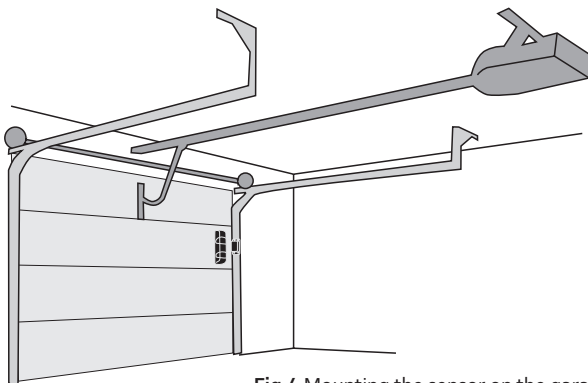

Fig.4 Mounting the sensor on the garage door.
2. Mount the AZ-MG magnet on the gate and the AZ-TX transmitter on the wall (or vice versa) in such a way that the magnet and the transmitter are on one level when the gate is closed (Fig. 4).